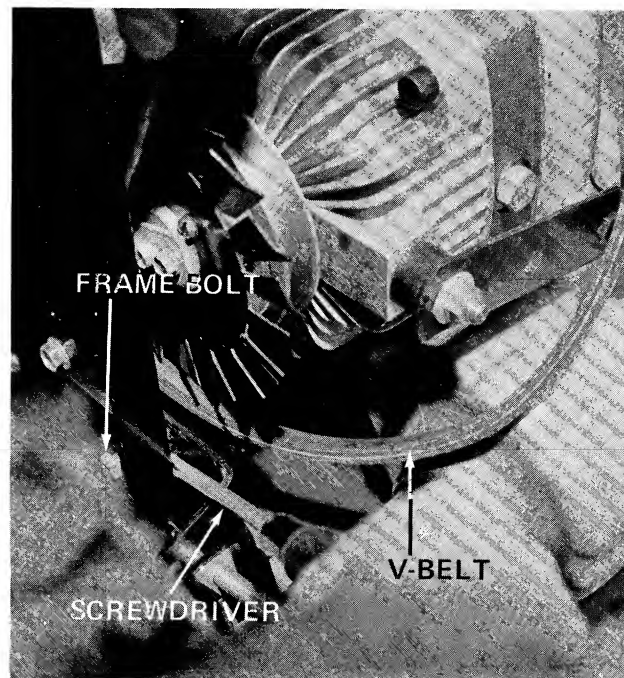

FIGURE 24
7. Loosen the frame bolt holding the rear axle bracket to the frame. See figure 24.